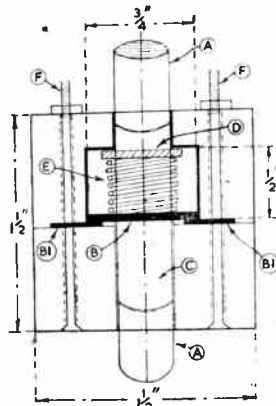

Fig. 1 - Lettered diagram section
The diagrammatic sketch shown in Fig. 1 gives the reader a complete picture of the assembled parts, consisting of a piece of  $\frac{3}{8}$  in. tube  $\frac{1}{2}$  in. in length (C). Plugs (A) made from dowelling of the same thickness as the tube, are necessary to eliminate the possibility of an electrical shock which would occur if the metal tube was extended to protrude at either end.